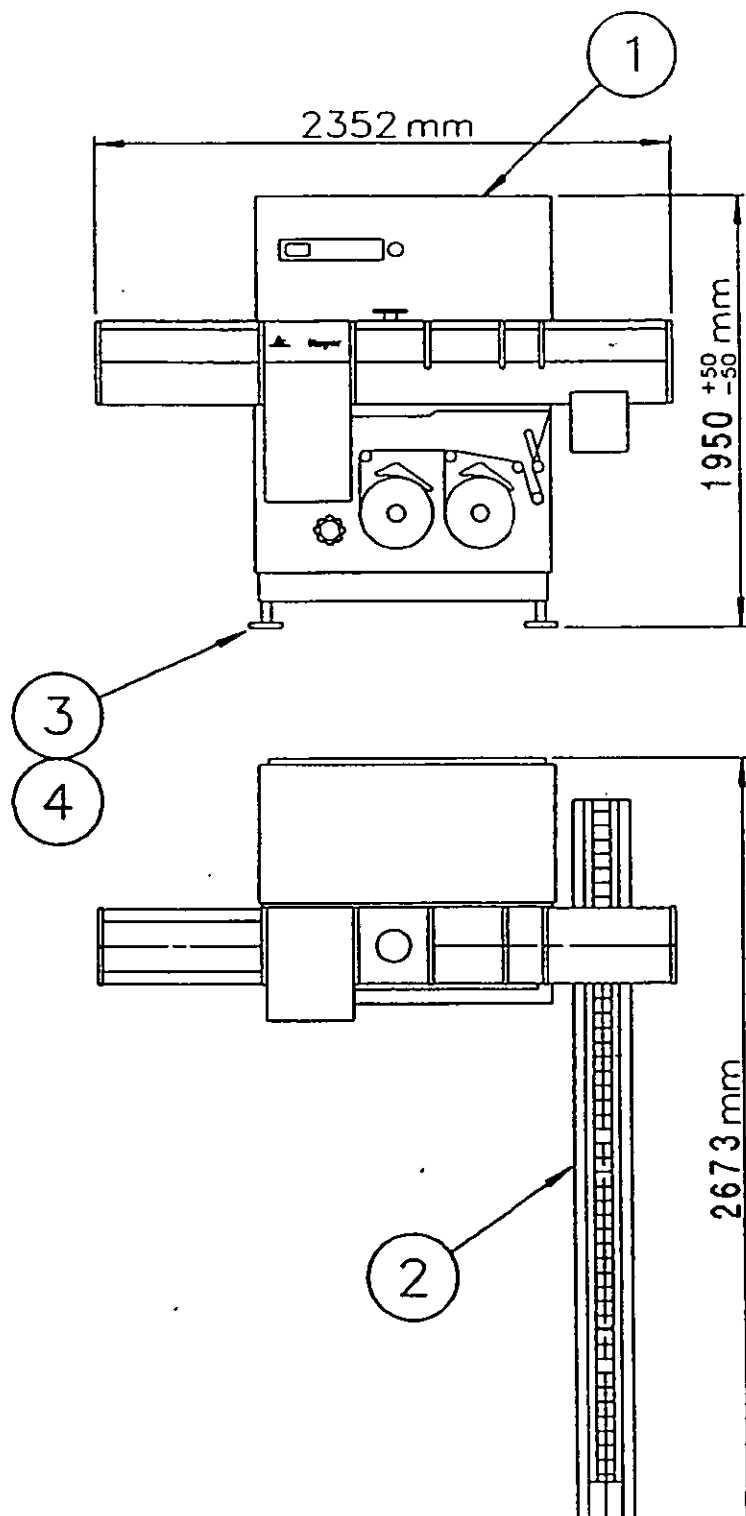

Fig. 1
See Fig. 1 before starting the lifting operation :
1. Insert the lifting legs under the machine as indicated by the arrow a in Fig. 1.
4. Mount (i.e. when the machine is still lifted) the supplied legs (4 pcs). See Fig 1. Pos.3.
5. Final mounting will take place on the supplied vibration damper (4 pcs). See Fig. 1. Pos 4.
See Fig. 1